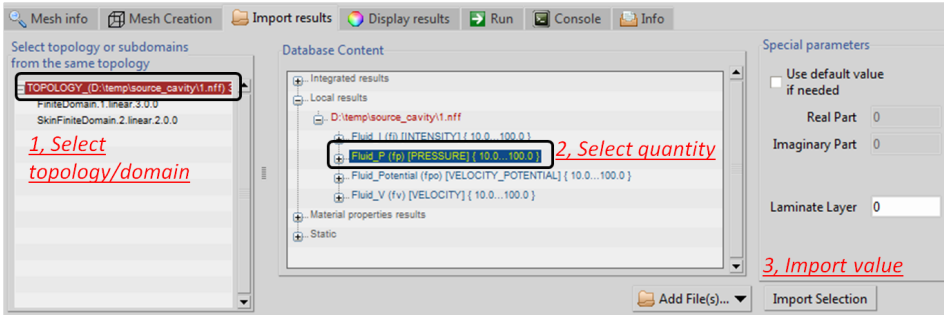

Figure 11.16: Import results: result file is the same as the mesh file
- The results file contains the mesh and is already loaded. This is for example the case for an NFF database. In this case, the quantities available in the database are already presented in the window. One only needs to select the desired quantity and import it by clicking on "Import Selection". This process is illustrated in Figure 11.16.